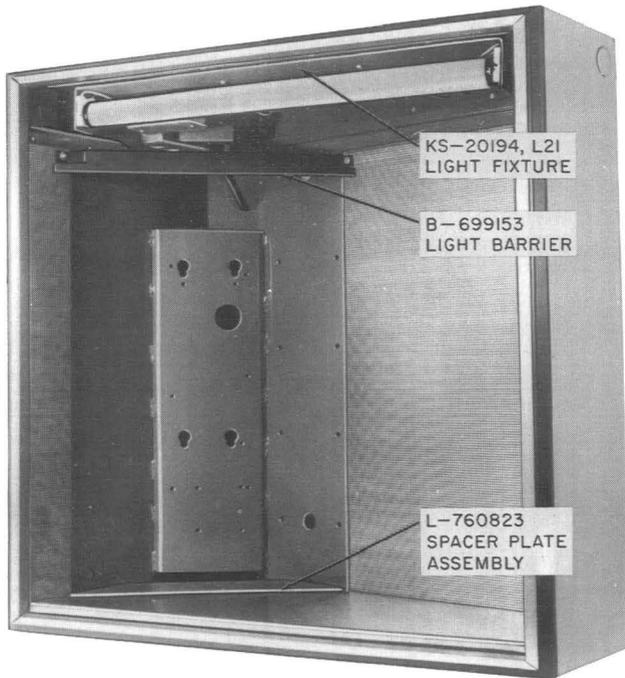

Fig. 5—Typical Housing For List 1, 2, 3, and 4 Shelf
- (i) Lists 1, 2, 3, and 4 shelves contain a light barrier and spacer plate (Fig. 5).
The shelf is packaged completely assembled [except the spacer plate assembly (Fig. 5) is packaged separately] and must be partially disassembled before it can be installed.
3.07 If applicable, install the perforated panels, L-760823 spacer plate assembly, and B-699153 light barrier (Fig. 5).